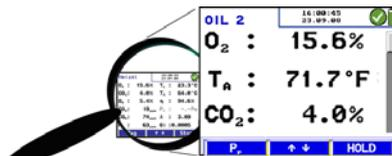

Figure 12: Zoom feature
- To remove the batteries from the analyzer open the battery compartment cover as shown in figure 12.